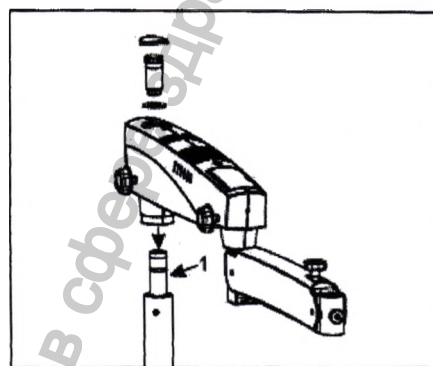

Fig. 6
Install rotary arm on lag hinge (1). See figure 6.